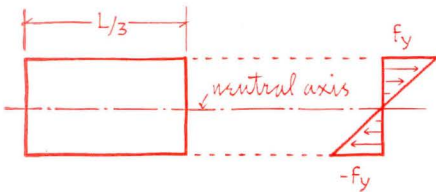

Figure 10—limit of elastic-stress distribution across beam section under load.
for an ideal I section of flange area A/2 and negligible web area. The stress (2) is derived under the assumption that plane sections remain plane and that the stress is linearly distributed across the section (Figure 10).